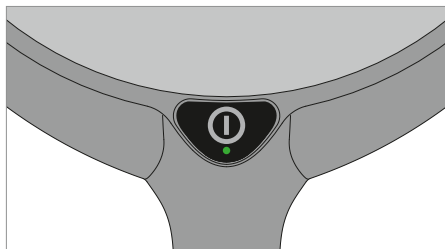

Fig. 6: Switch.
- Press the switch, see Fig. 6.
- Press the switch twice in quick succession, see Fig. 6. The next level is switched on. The set level is saved. The next time the light is switched on, the level saved last will be set automatically.